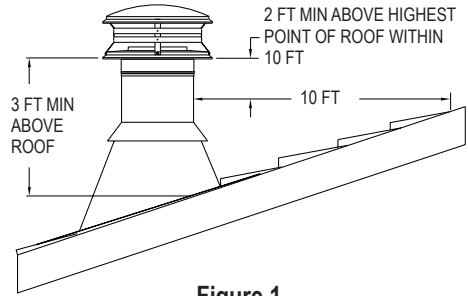
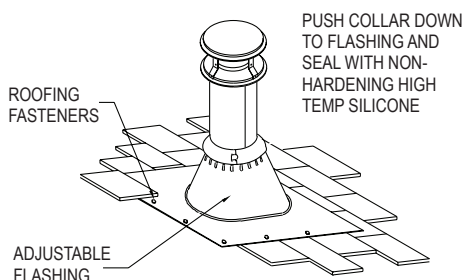
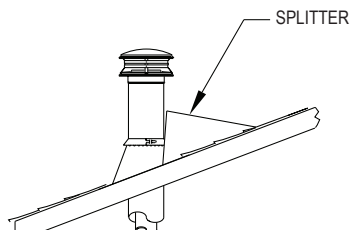
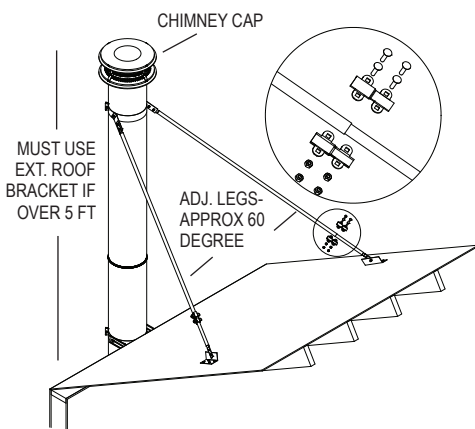

Figure 1
Figure 15
Figure 16
Figure 18
The National Fire Protection Association Standard #211 states: “Chimneys shall extend at least three feet above the highest point where it passes through the roof of a building, and at least two feet higher than any portion of a building within ten feet.” (**Fig.1**) DuraTech Chimney may be installed up to 60 feet high. If the chimney extends more than 5 feet above the roof, an Extended Roof Bracket must be used (see page 12). Due to the overlap of the joints, subtract 1-1/4 inches from each Chimney Section's height to calculate installed height.
9. Attach Flashing: In new construction, assemble the Chimney Sections to a point above the roof, then slip the Flashing over the chimney. On an existing roof, center and install the Flashing before extending the chimney above the roof. Allow space to permit sliding the next Chimney Section up through the Flashing. Always insure the chimney remains vertical (use a level), and that at least a 2" clearance to combustible materials is maintained all around. Install the upper edge of the Flashing under the roofing. Nail to the roof along the upper edge and down each side with 1" roofing nails. Do not nail the lower edge of the Flashing (**Fig.15**). Seal top and upper sides of flashing with roofing compound or sealant. Be sure to follow local building practices, as needed. Seal all nail heads with a non-hardening waterproof sealant. On flat or tarred and graveled roofs, nail and seal the
10. Finish Top: Apply a high-temperature (500°F), non-hardening waterproof sealant around the chimney at the point where the Storm Collar will meet the chimney just above the Flashing (**Fig.15**). Slide the Storm Collar down over the chimney to the top of the Flashing. Tighten and seal the Storm Collar against the sealant. After installing sufficient Chimney Sections to meet the height requirement (**Fig.1**), attach the Chimney Cap onto the top of the chimney by holding the collar of the cap and twist locking it clockwise onto the chimney. Do not hold upper portion of the cap and twist, as this may damage the cap. The Chimney Cap can be removed for chimney cleaning as described in the Chimney Maintenance section of the instructions. Use an Extended Roof Bracket if the chimney extends more than 5' above the roof (**Fig.18 in the Extended Roof Bracket section**). If you are located in heavy snow country, it is recommended that a Snow Splitter be installed (**Fig.16**). This will help protect the chimney by routing snow around it.
2. **Attach the Legs:** The Adjustable Legs of the assembly will adjust from 67" to 114". Secure one end of each Leg to the Pipe Band using the nuts and bolts included (2 per Leg). Position the Adjustable legs so they form approximately a 60° angle with the chimney, and with each other (**Fig.18**). Be sure that there is at least 3" of overlap between the top and bottom halves of the Adjustable Leg. In order to secure Legs in proper position, there is a hole provided in the outer leg where the outer and inner halves overlap. Use a 1/4" drill bit to drill through the inner leg at that location. Use the nut & bolt provided to pin the Adjustable Legs in position.
3. **Install Roof Brackets:** Mount the two Roof Brackets where each of the Adjustable Legs meets the roof, using (4) 1" roofing nails or screws per bracket. Seal the nail heads carefully with a non-hardening, waterproof sealant. Attach the bottom end of the Adjustable Legs to the Roof Brackets using the nuts & bolts provided.